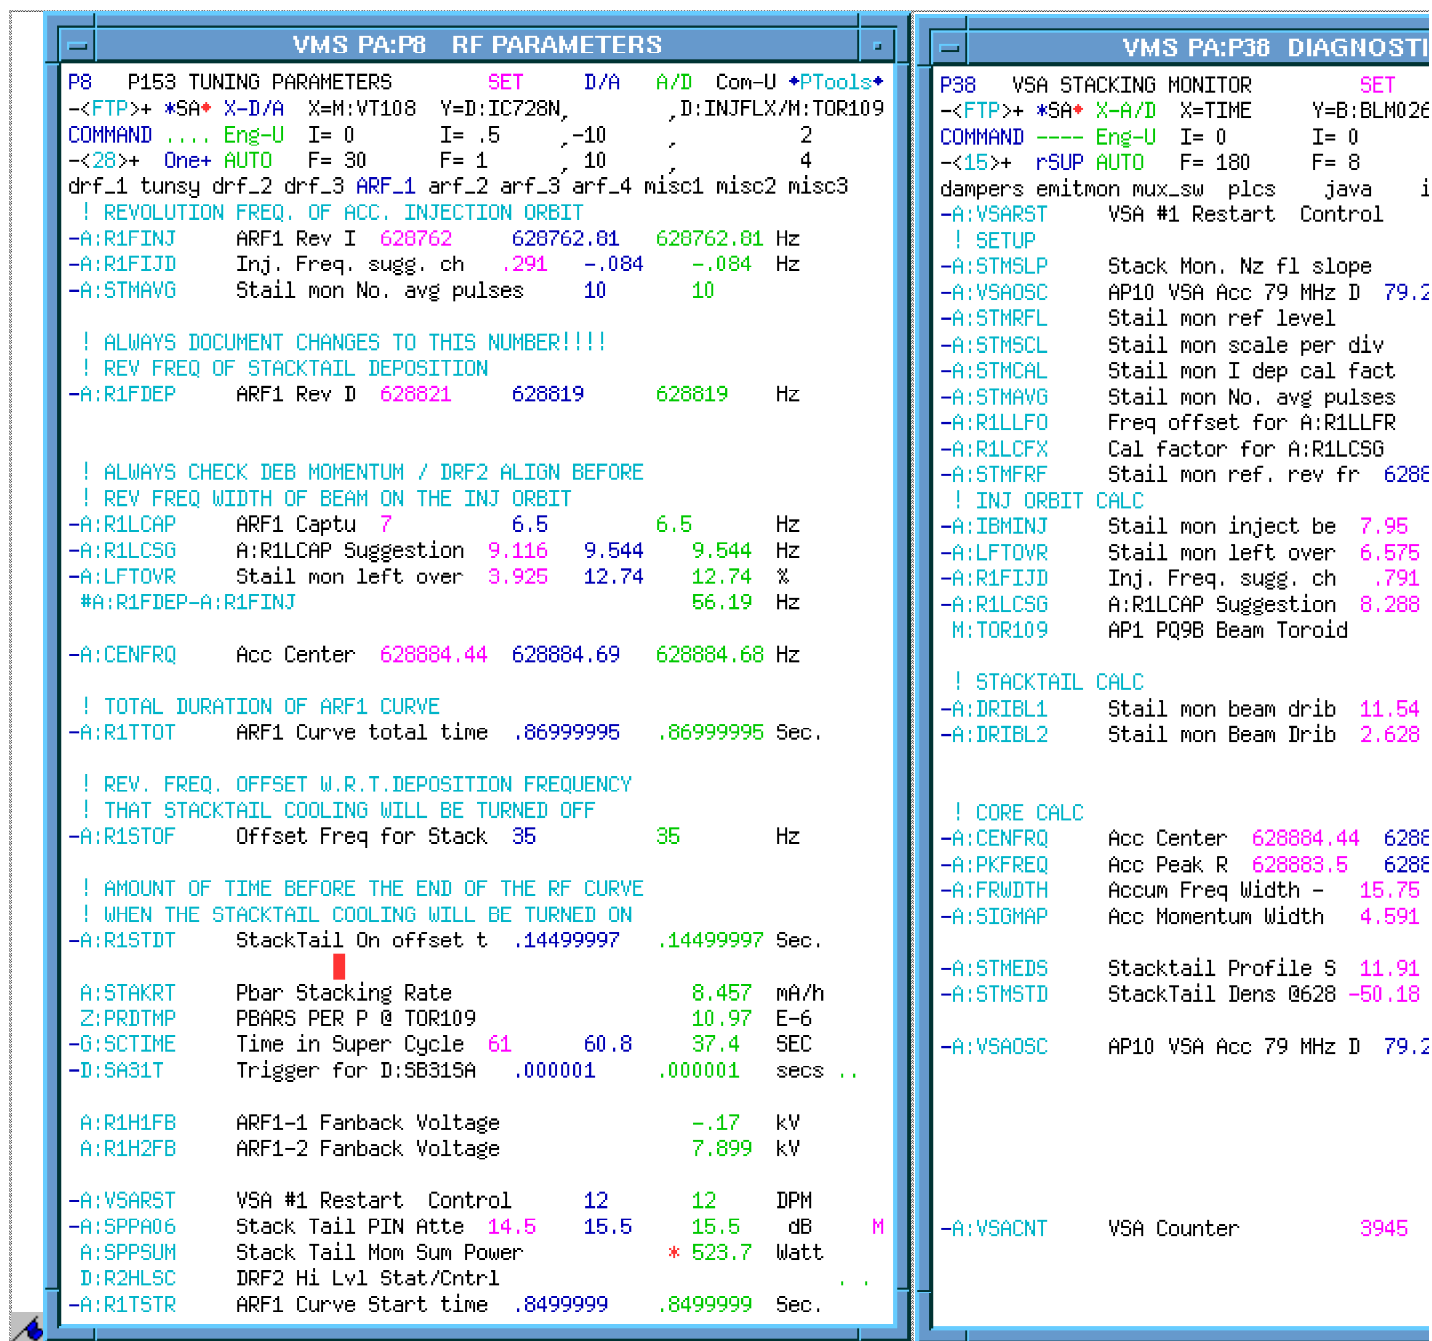

Figure 24: The page on the left is P8 ARF_1 <28>, which contains the ARF1 tuning parameters. The page on the right is
- There are two helpful parameter pages shown in Figure 24. P8 ARF_1 <28> contains the ARF1 tuning parameters, and P38 McGinni <15> has the Stacking Monitor parameters.